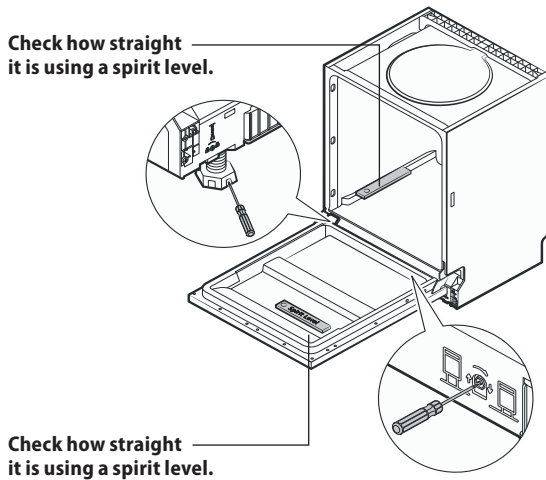

Fig. 16
- Use the feet at the front and back of the appliance to level it to a horizontal position. Adjust the back feet by turning the screw on the bottom of the front side of the appliance (step 5). Adjust the front feet by turning screws located near the feet themselves (step 5B). Use a spirit level Fig. 16).
2. Place a spirit level on the fully opened door and in the interior of the appliance (Fig. 16). Make sure the dishwasher is in a horizontal position.